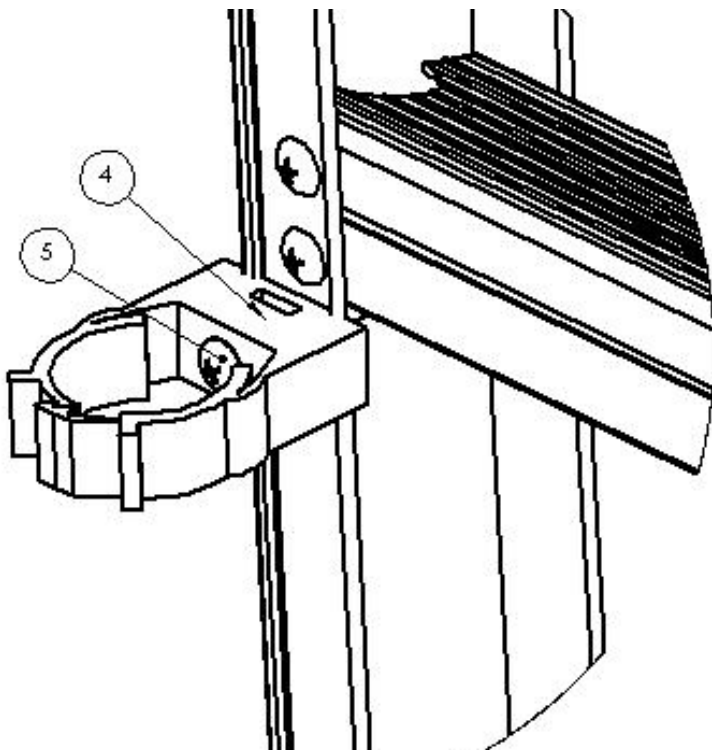

Figure 13a
- 16) Use a drill with a Phillips bit to fasten the (#4) Plastic Pipe Clamp to the ladder as shown below in Figure 13a. The hose clamp should be attached with the clamp aligned with the bottom of the step, See Figure 13b. Place (#6) Vinyl Cap over visible portion of screw. Repeat this step for each tread on ladder.